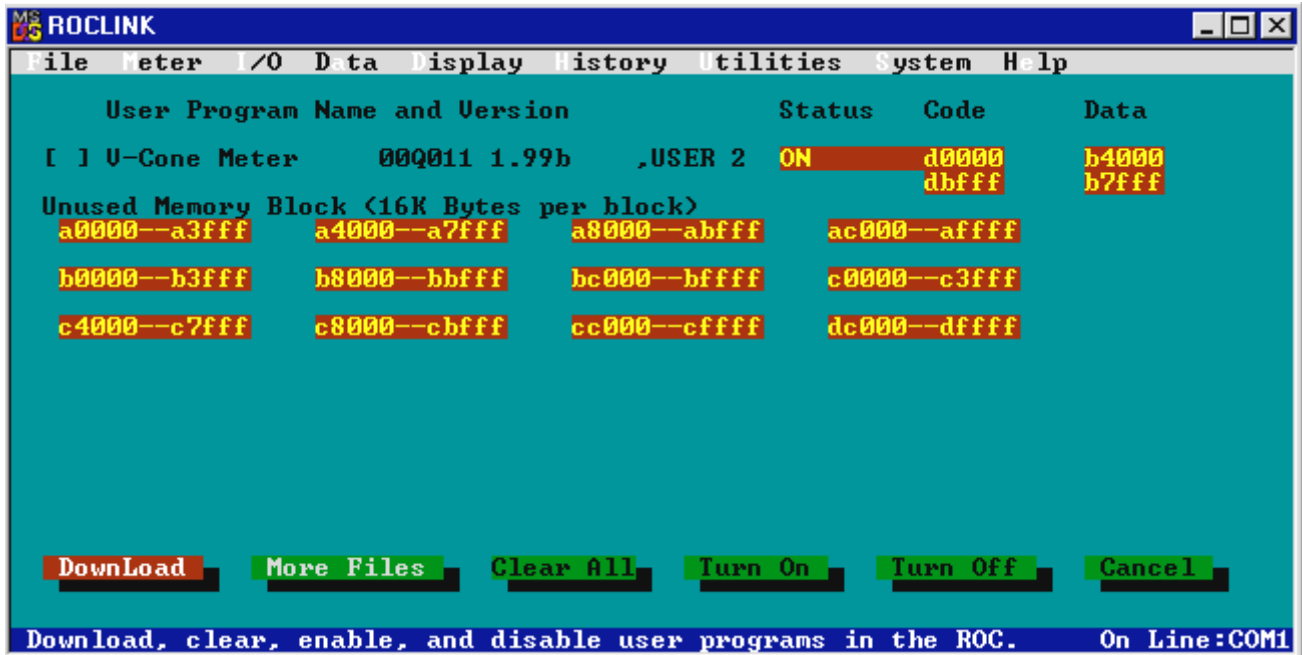

Figure 3. ROCLINK User Program Installation
7. You may press the More Files pushbutton (see Figure 3) to select additional User Programs for installation. Press the **Download** pushbutton again to begin loading the V-cone Program.